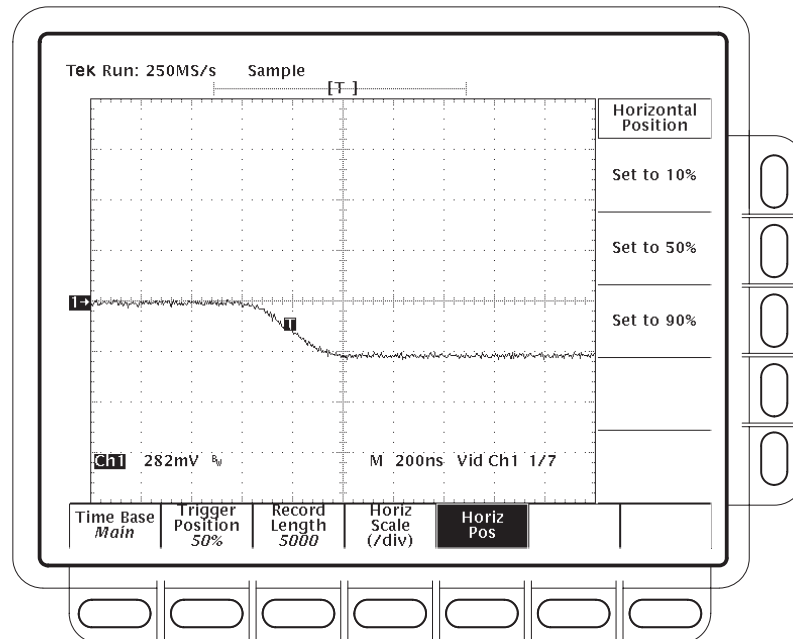

Figure 4–35: Line count accuracy test setup waveform – TDS 684C shown
- Verify that the cursor is positioned on a positive slope of the burst signal. See Figure 4–36.